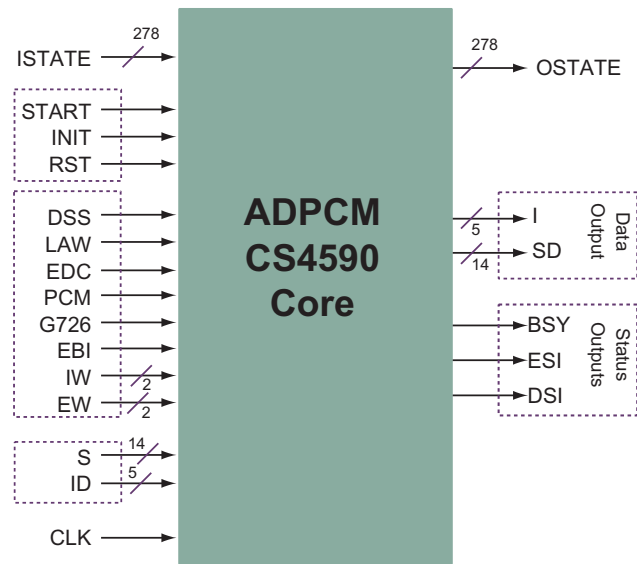

Figure 4: CS4590 Symbol
Table 2 describes the input and output ports (shown graphically in Figure 4) of the CS4590 ADPCM codec. Unless otherwise stated, all signals are active high and bit(0) is the least significant bit.